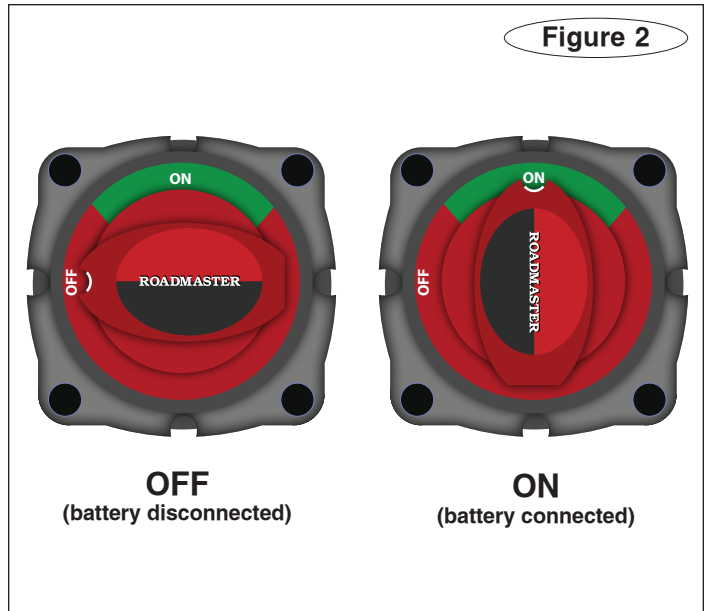

Figure 2
4. Verify that the switch is in the OFF position before proceeding (Figure 2).